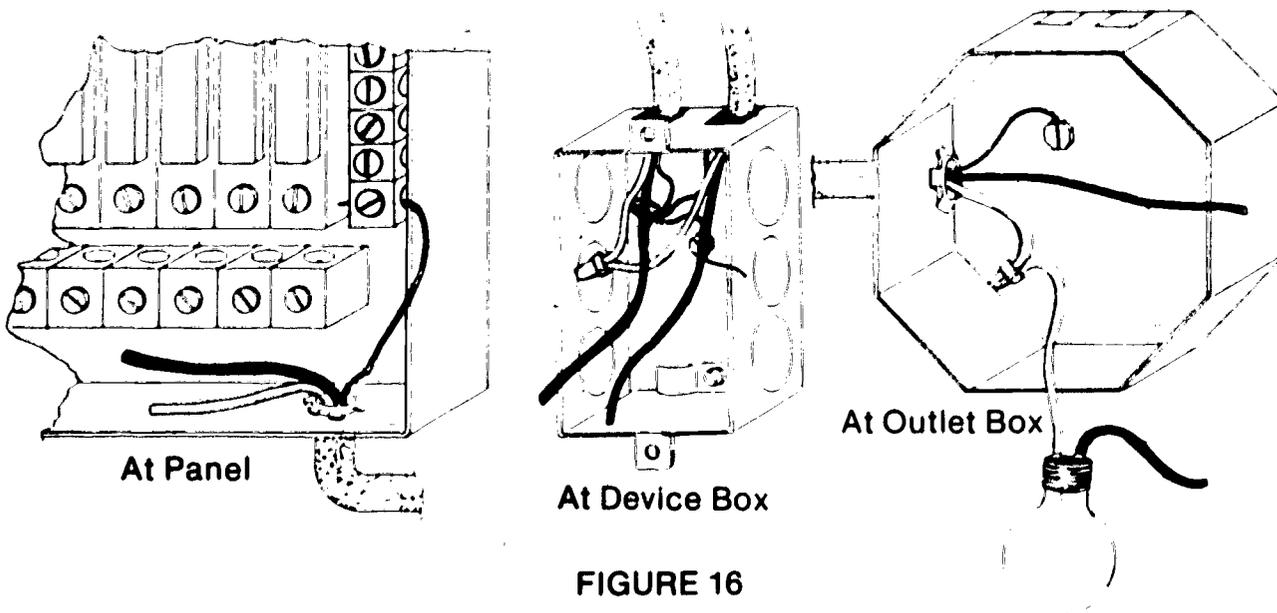

FIGURE 16
- L. Connect all neutral conductors (white or natural gray) (Figure 16)